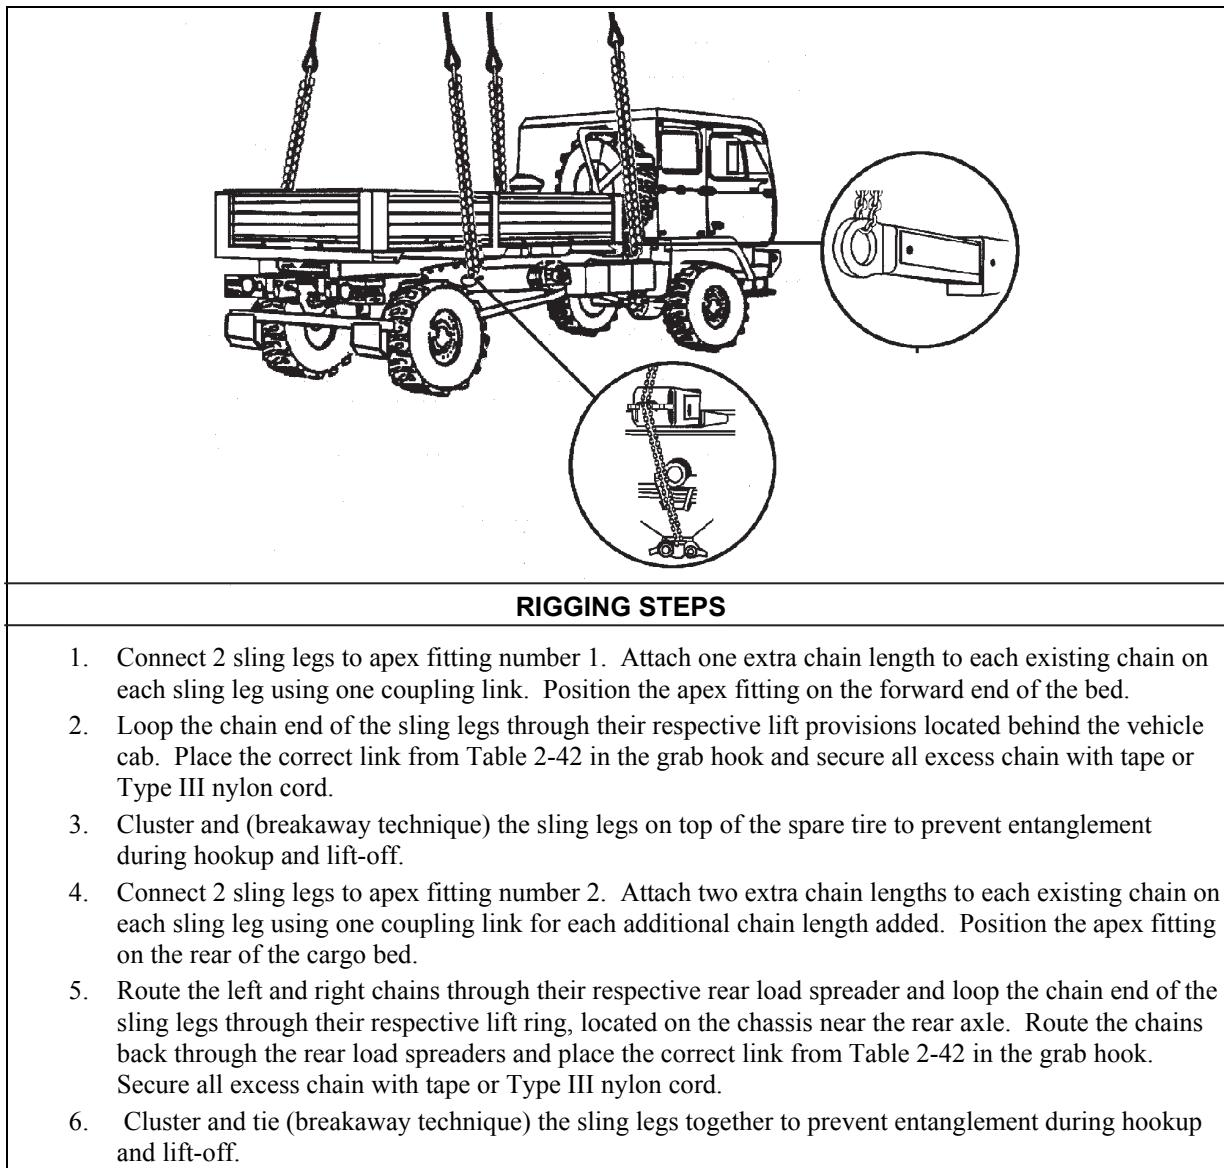

Figure 2-41. Light Medium Tactical Vehicles
- **Rigging.** Rig the load according to the steps in Figure 2-41.